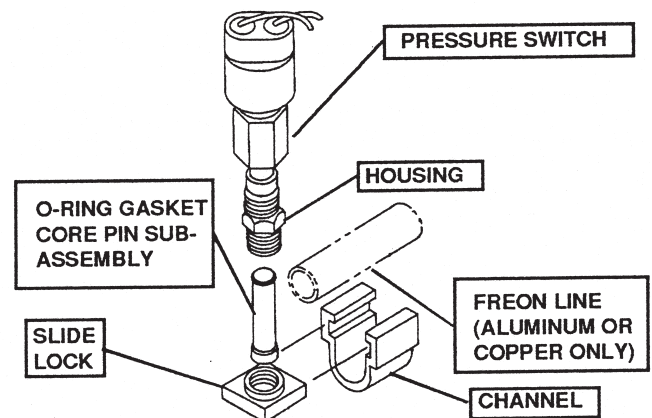

FIGURE 1
- Slide Channel onto High Pressure Line (See Fig. 1).
- Lock Channel onto High Pressure Line with Slide Lock (See Fig. 1).
- Screw O'ring Gasket Core Pin sub-assembly into Slide Lock (See Fig. 1).
- Screw Housing and Freon Pressure Switch into Slide Lock (See Fig. 1).